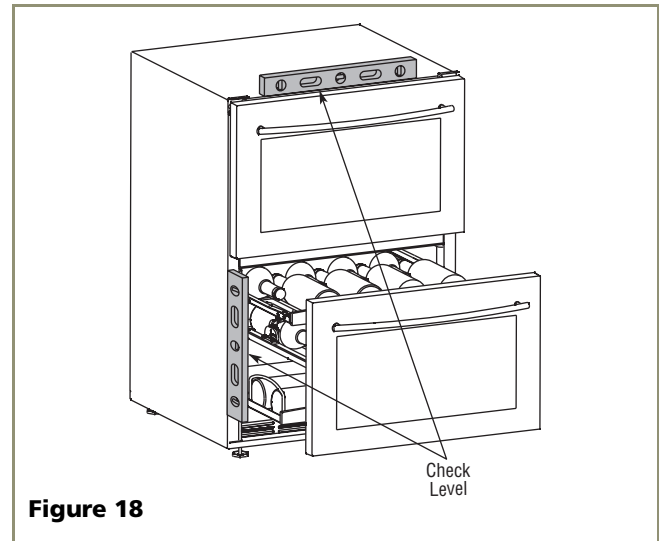

Figure 18
1. Use a level to check the levelness of the unit from front to back and from side to side. Level should be placed along top edge and side edge as shown (see **Figure 18**).